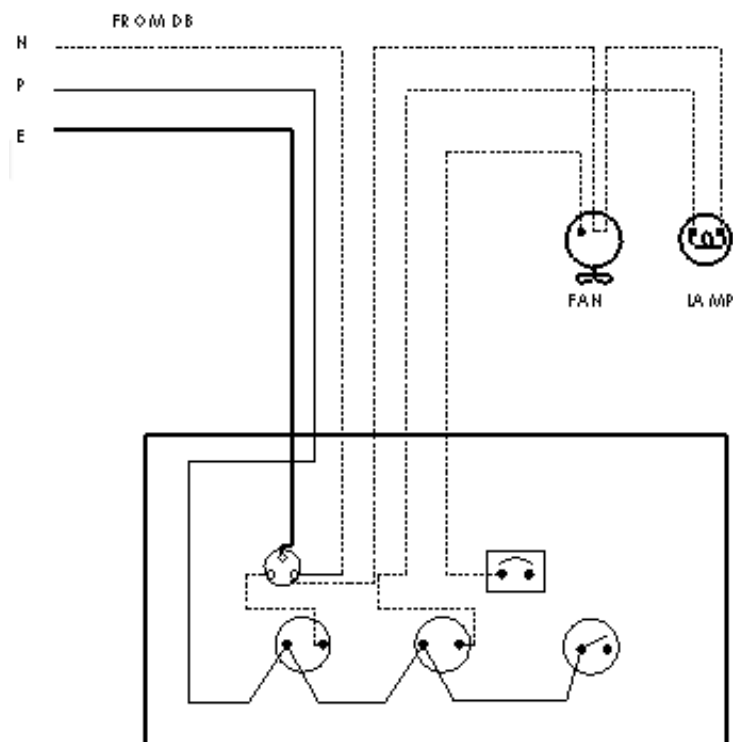

Figure 12.3: Single Phase wiring diagram
12.3 Draw the electrical circuit diagram of Single Phase wiring diagram as shown in Figure 12.3